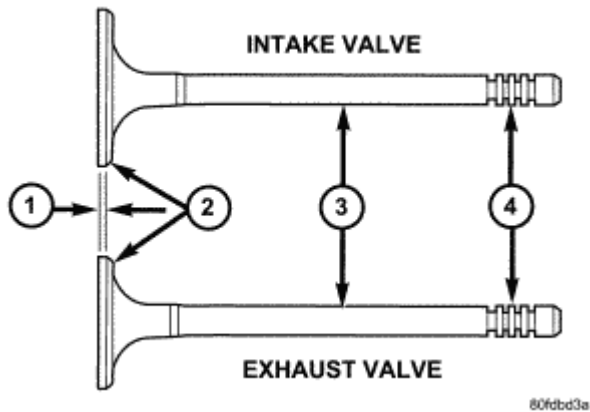

Fig. 95: Identifying Intake & Exhaust Valves
2. Measure valve stems for wear. See **Fig. 95**. For valve specifications, see **SPECIFICATIONS**.
NOTE: Valve stems are chrome plated and should not be polished. See **Fig. 95**.